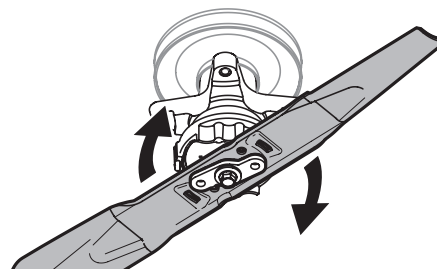

Figure 5
5. While holding the collar in the upward position, rotate the blade clockwise to align with the blade adapter. See Figure 5.